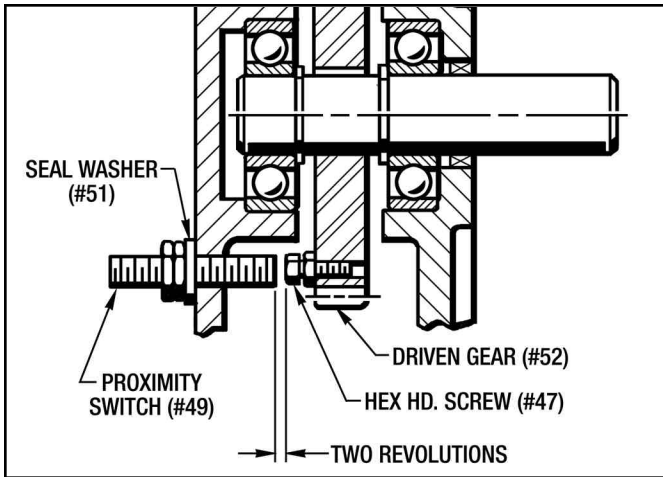

Figure 4.5 - Installing Proximity Switch (#49)
(See Figure 4.5)
4. Attach the top segment of the Starwheel Coupling with the (6) Screws and Lockwashers. **Torque to 27 Lb. Ft. (38 Nm)** in an even manner and pattern shown in *Figure 4.5*. Make sure the L.H. Gap and the R. H. Gap between the top segment and the bottom segment is the same on both sides as shown in *Figure 4.5*.